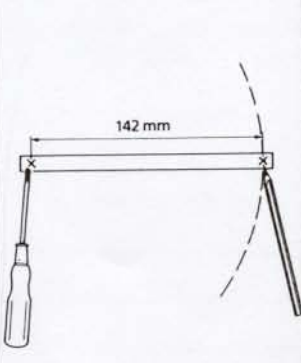

Fig.8a
11. Fit the brackets loosely to the fitting, using the screws provided (Fig 1 part c), through the appropriate holes (Fig 8a).